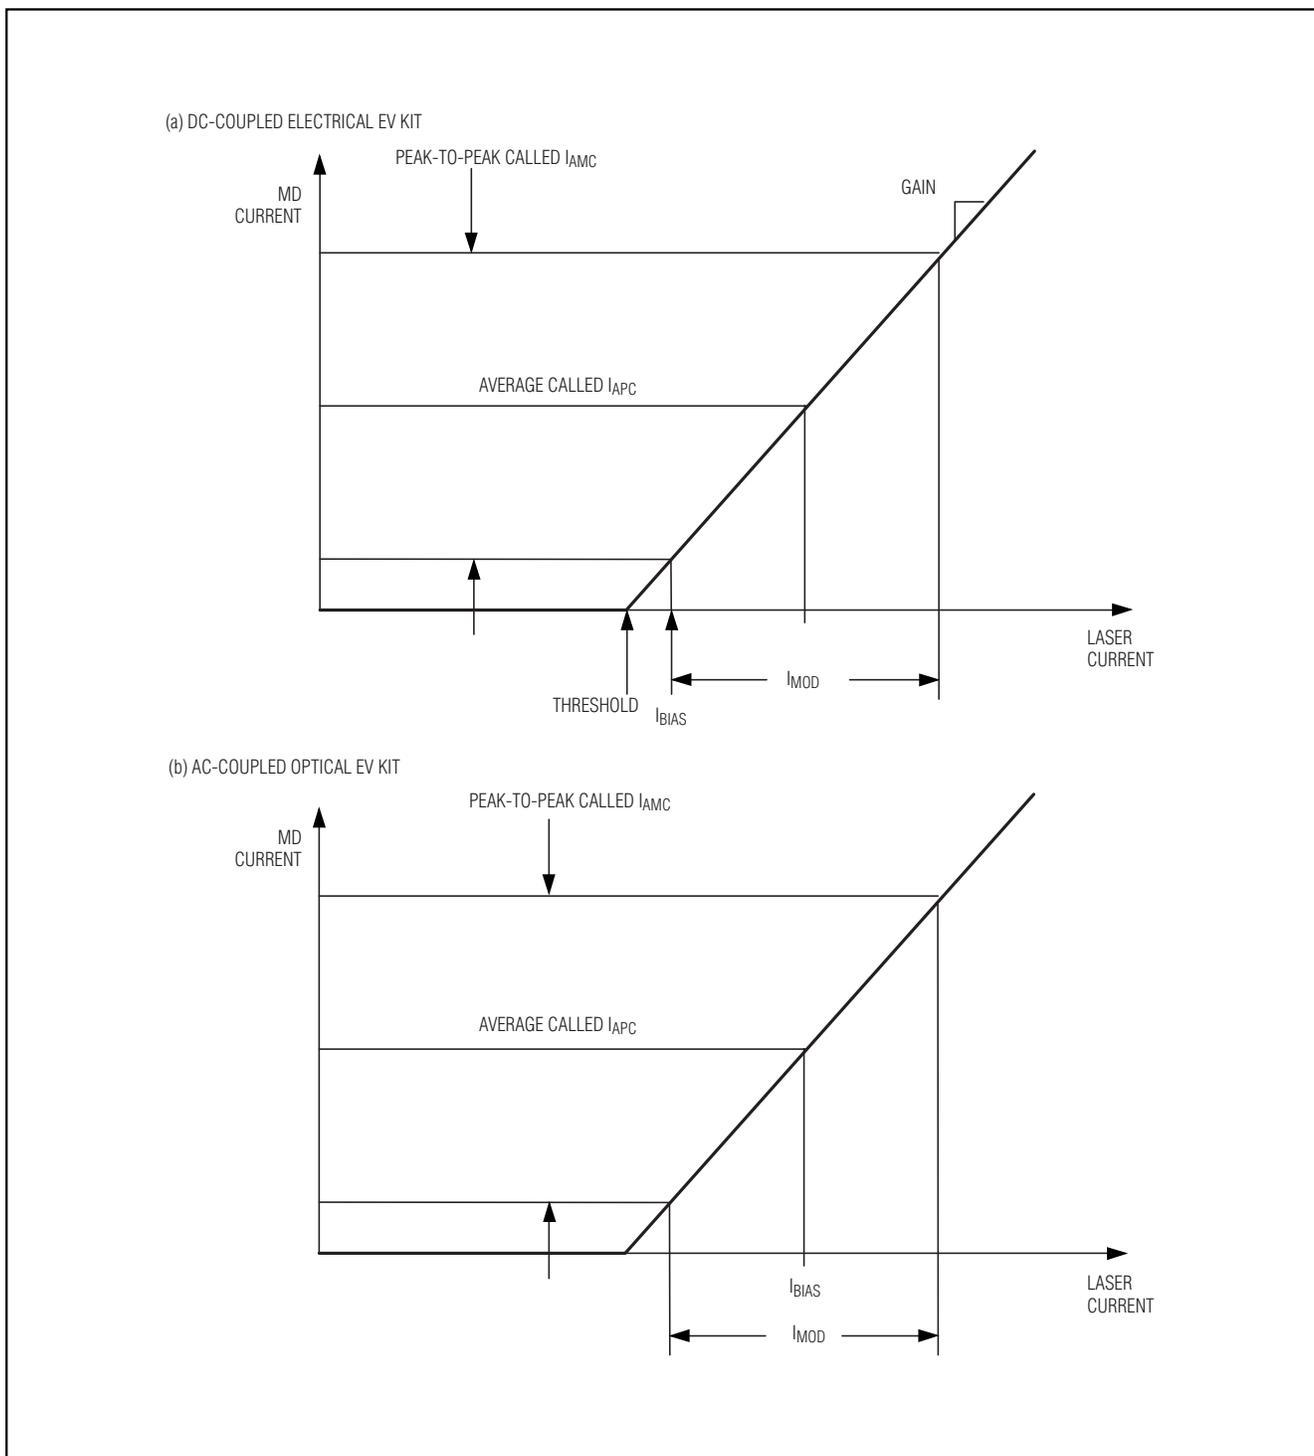

Figure 1. Relation Between Chip-Output Currents and Monitor-Diode Currents
3) Program the gain of the synthetic laser using the jumper settings shown in Table 1. Remember that the synthetic laser is not a real laser. It mimics only some characteristics of a real laser. In particular, its input behaves like a linear resistor and not like a diode. As input current is increased, synthetic laser voltage continues to increase rather than saturating (at something in excess of 1V) like a real laser (Figure 1).
The resulting bias and modulation currents as seen in Figure 1:
The corresponding monitor currents:  $I_{BIASMON} \approx 677\mu\text{A}$  and  $I_{MODMON} \approx 781\mu\text{A}$ . See Figure 1 to see how the set-point currents and actual bias and modulation currents are related.